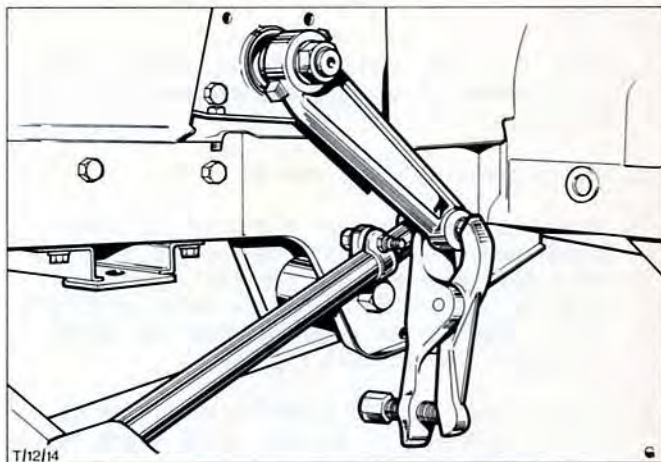

Fig.42. Detach drag link from drop arm using service tool 13 006.
2. Using special service tool 13 006 release tapers, and remove drag link Fig.42.